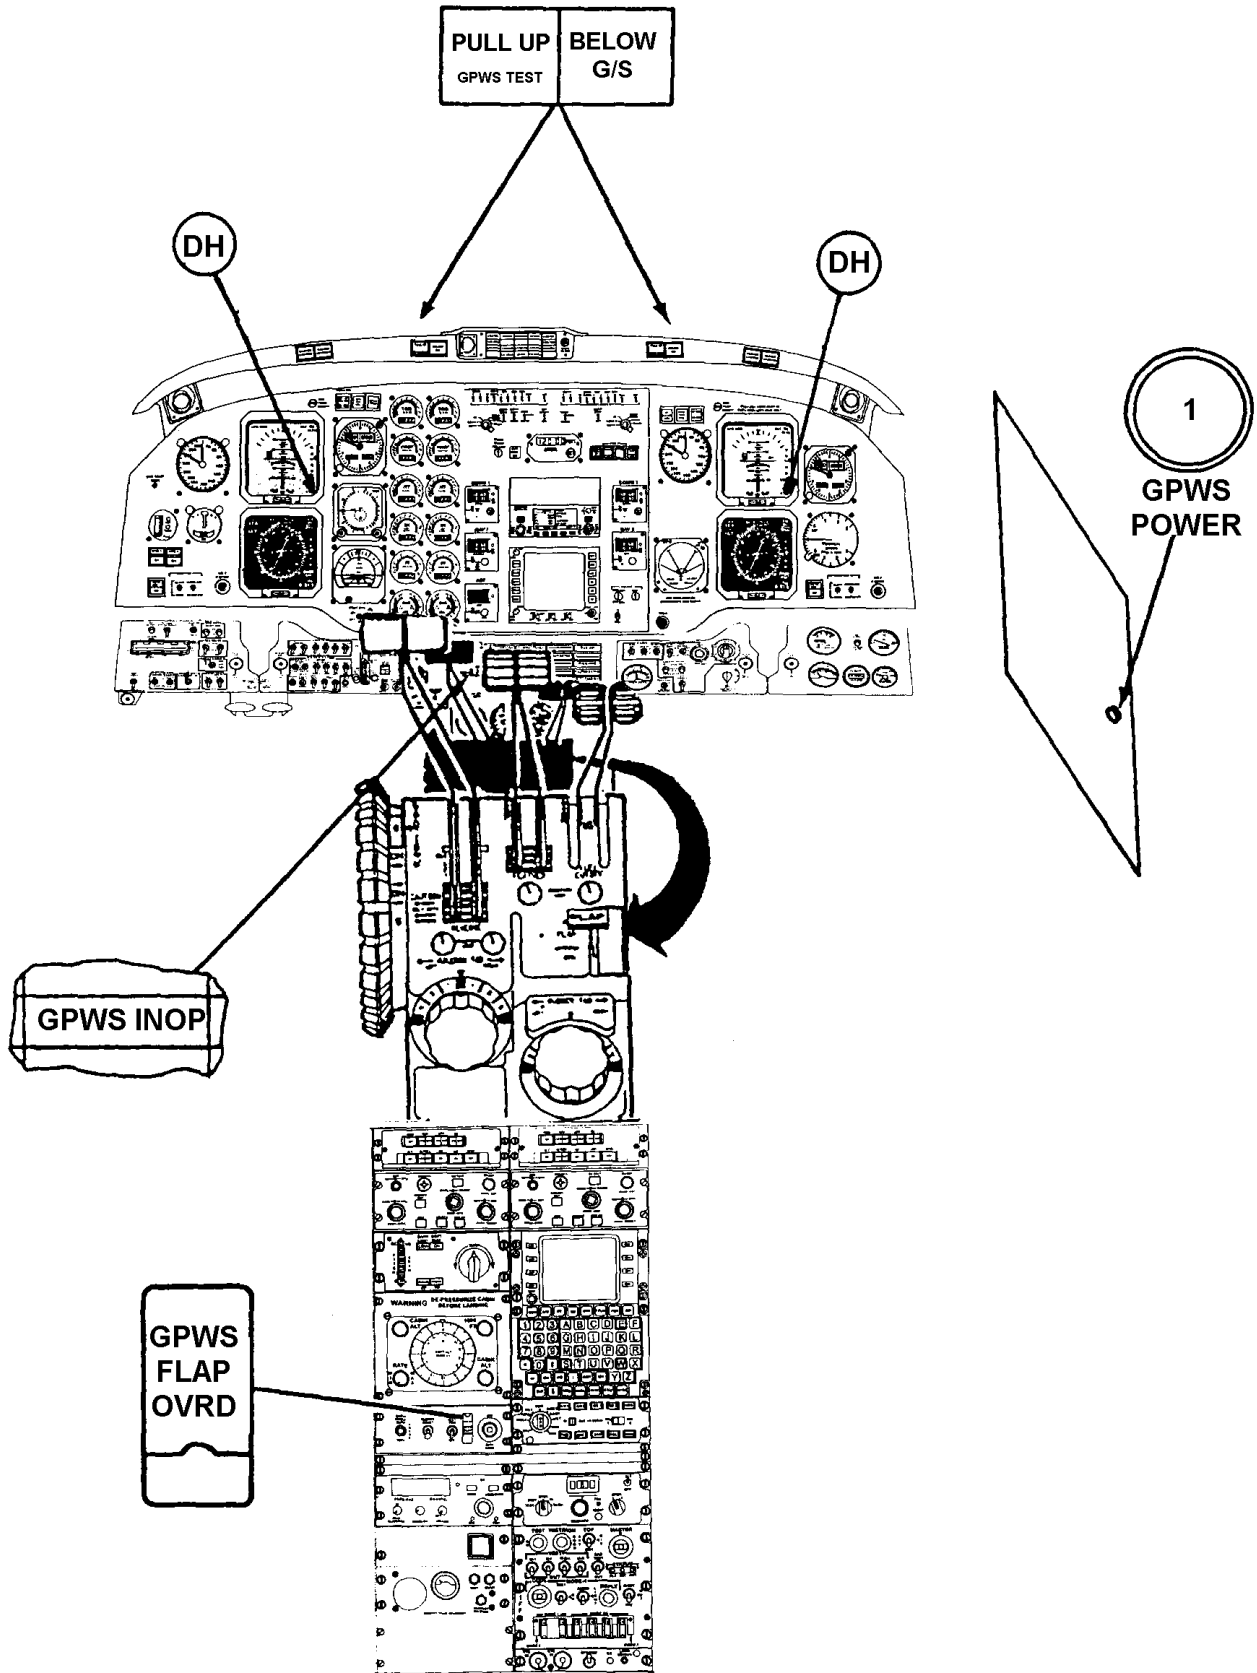

Figure 3B-161. Ground Collision Avoidance System Control and Indicators
a. Description. The Ground Collision Avoidance System (GCAS) is provided to aid the flight crew in terrain avoidance. Figure 3B-161 shows the ground collision avoidance system controls and indicators.